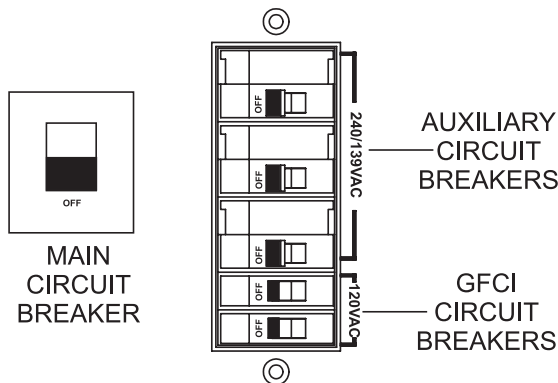

Figure 44. Main, Aux. and GFCI Circuit Breakers (OFF)
1. Place the **main, G.F.C.I., and aux.** circuit breakers (Figure 44) in the **OFF** position prior to starting the engine.